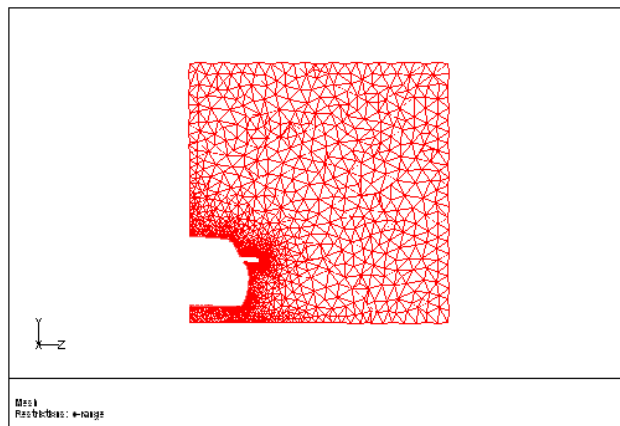

Figure 2.4: Slide of Cells at $X = -0.37$
- i. Display the mesh on a slide through the mirror and the car ($x = -0.37$). See Figure 2.4.